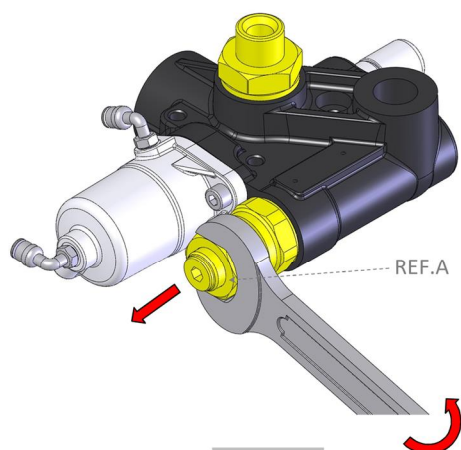

Fig.6
- 2.2. Unscrew the part. A (see ref.A on Fig.6);